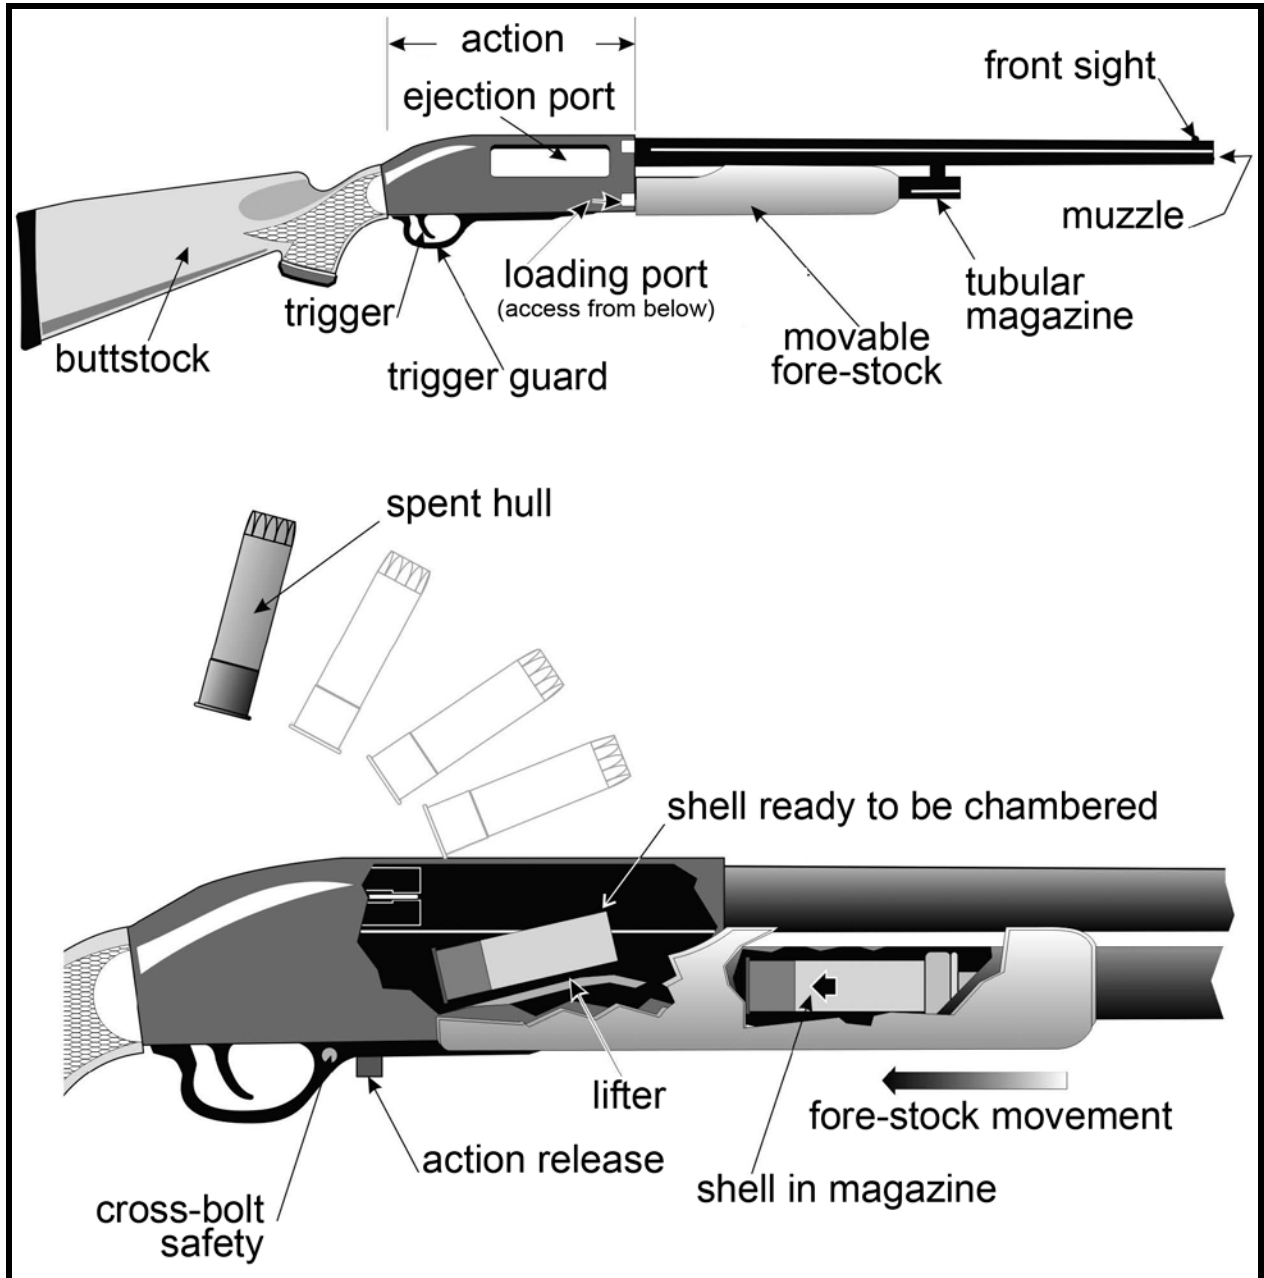

Figure 54. Pump action
- b. The **safety mechanism** on most modern pump actions is either a slide/tang or cross-bolt/button safety located in the action area. The button is usually at the front or rear of the trigger guard. The slide/tang is frequently on top of the action. The action release is also found at the trigger guard (Figure 54).